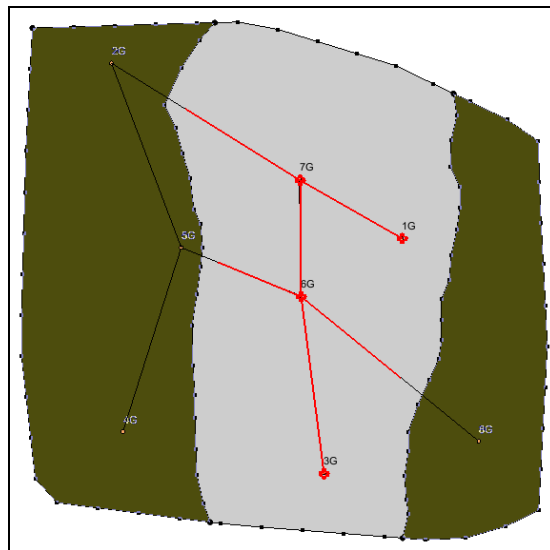

Figure 7 Polygons to delete (highlighted in green)
2. Using the **Select Polygons** tool, hold down the *Shift* key and select the two highlighted polygons (to the left and right of the center polygon, Figure 7).